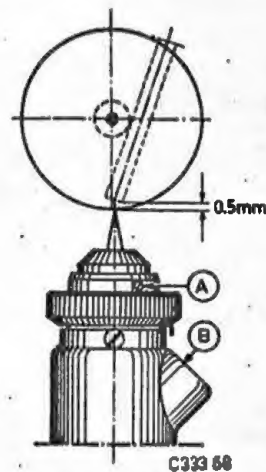

Fig 4
6. Slit optic fig. 4
- Start the projector, ignite the lamp and focus the mask sharply on the screen. Loosen the 4 screws "E" fig. 4 on the lamp fitting and move the fitting until the screen is lighted as uniformly as possible. Then secure the fitting.
- When the support "A" fig. 4 has been loosened, point b should be proceeded by the following. Remove the lamp house and loosen the 4 screws of the support so far that, moved by hand, it remains standing in any position. Then carry out the adjustment as described under a. Undo the screws of the lamp fitting and place the fitting as far as possible backwards. Turn the lens holder entirely forward and place the lens on the front side of the hole. If possible, use a lens with big focal length. Start the projector and ignite the lamp. Move the lens until a picture of the glow spirals appear on the screen. Now move the support until the spirals are projected uniformly divided on the screen. Now secure the support. For this the lamp house has to be removed.